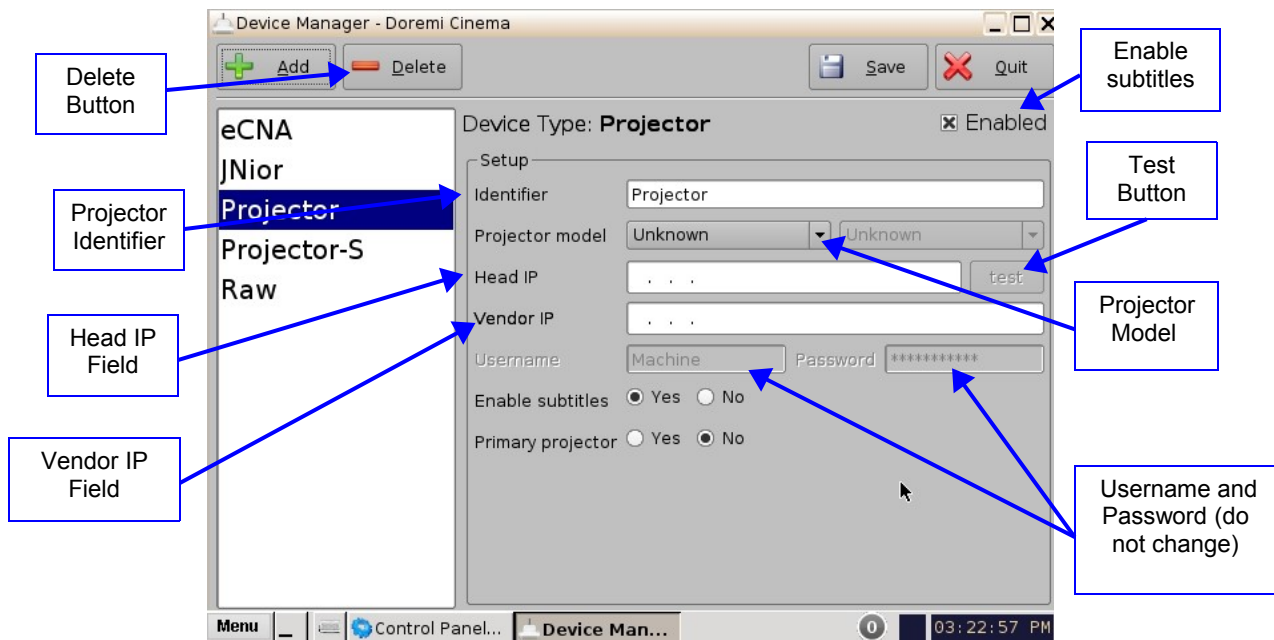

Figure 96: Device Manager GUI – Projector Fields Configuration
- Click the Delete button (Figure 96).